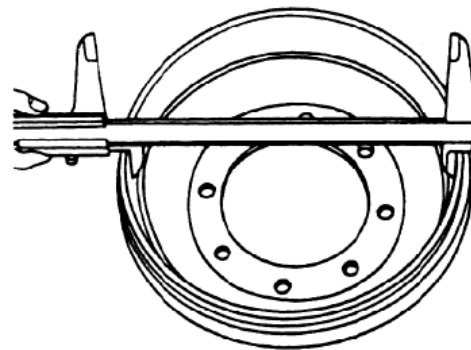

Fig. 2-19
(5) Check the condition of the brake drum inner surface. If any damage or excessive wear is found, repair by machining or replace it. (See Fig.2-19)